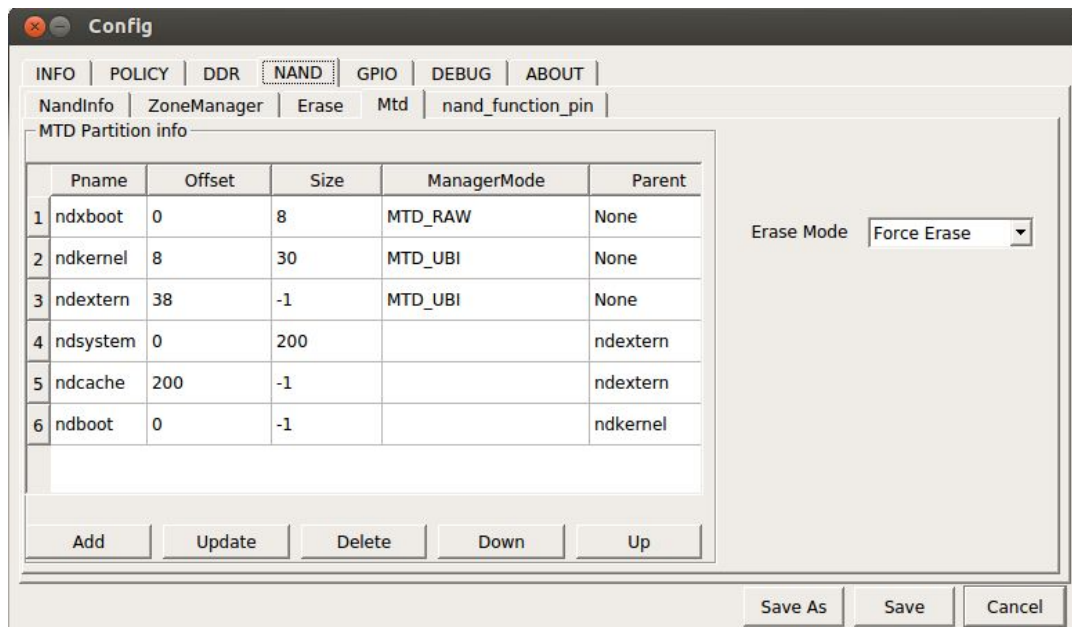

Figure 5-1 Kernel single MTD partition
1. The Kernel single takes the MTD partition, as shown in Figure 5-1